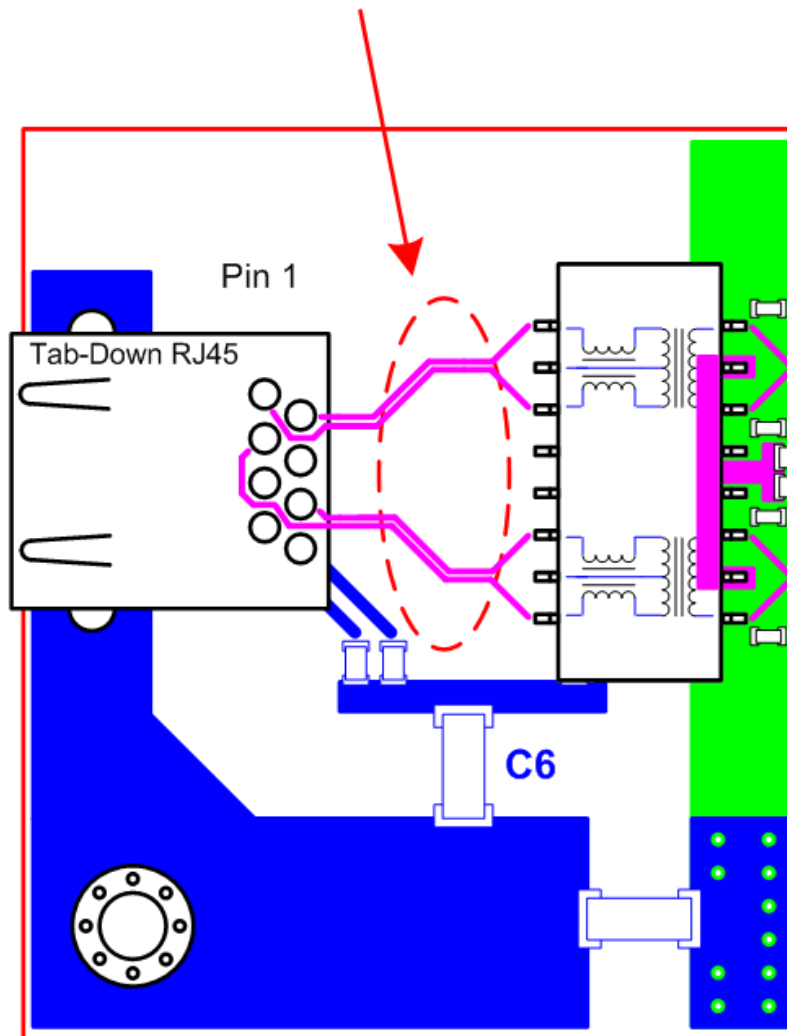

Figure No. 3
3. Refer to Figure No. 3 for Ethernet front end routing details.